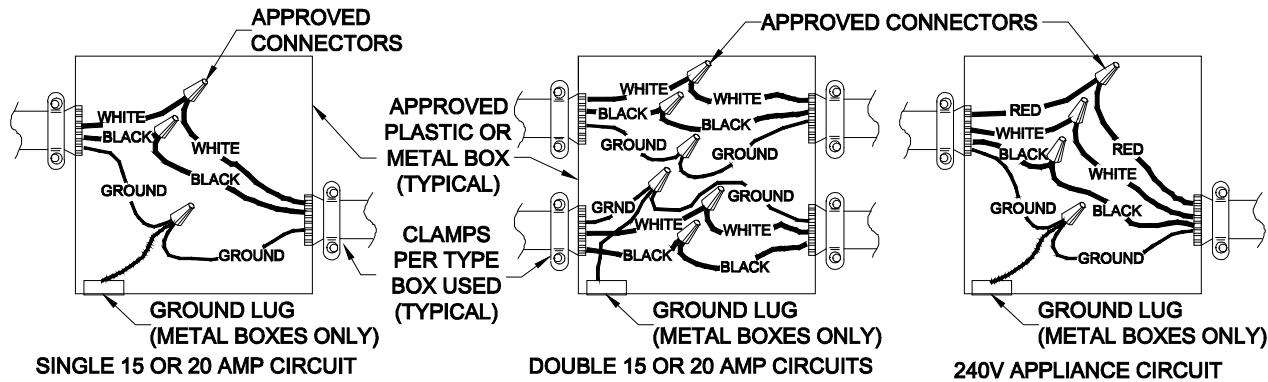

Figure 37. Types of junction box wiring connections
Connect wires in junction boxes as follows (**Figure 37**):
1. **Pull wires.** Pull circuit wires into the junction box, sliding them through a romex connector and secure snugly. (**Figure 37**) Do not over-tighten.